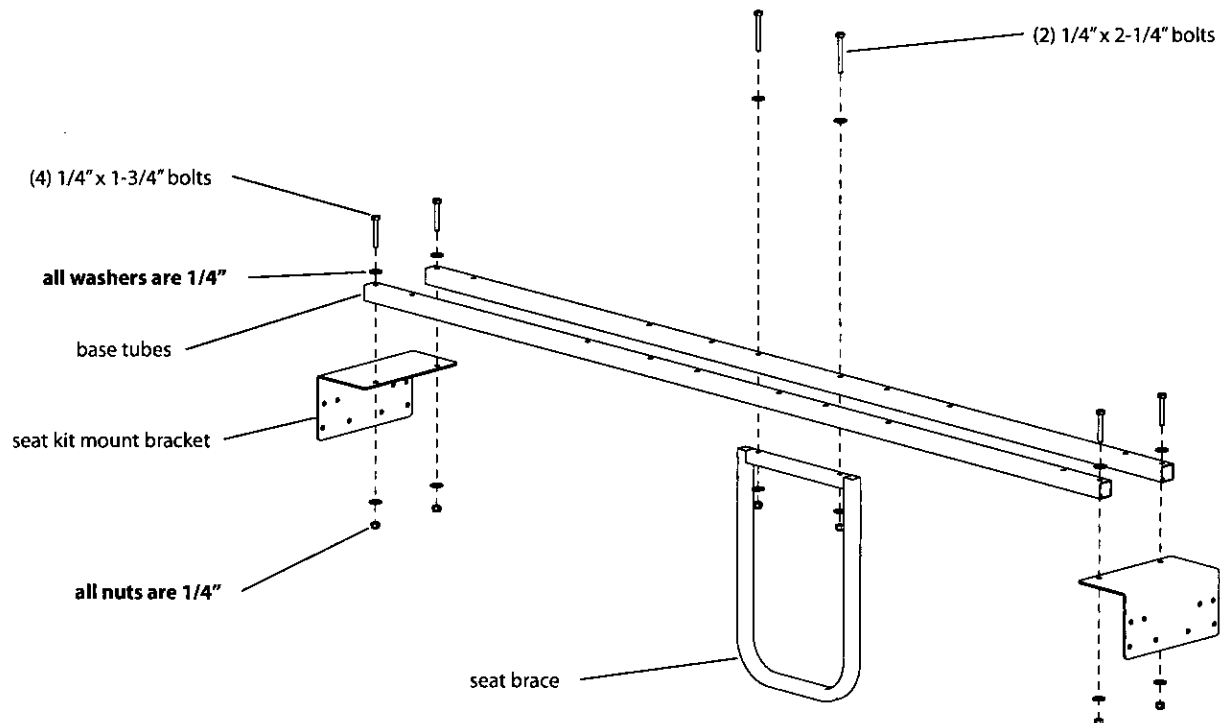

Figure 5A
2. Attach (2) base tubes (68441) to the top side of seat kit mount brackets using (4) provided 1/4-20 x 1-3/4" bolts, nyloc nuts and (8) washers. **SEE FIGURE 5A.**
3. Attach seat brace (68440) to bottom of rear base tube using (2) provided 1/4-20 x 2-1/4" bolts, nyloc nuts and (4) washers. **SEE FIGURE 5A.**